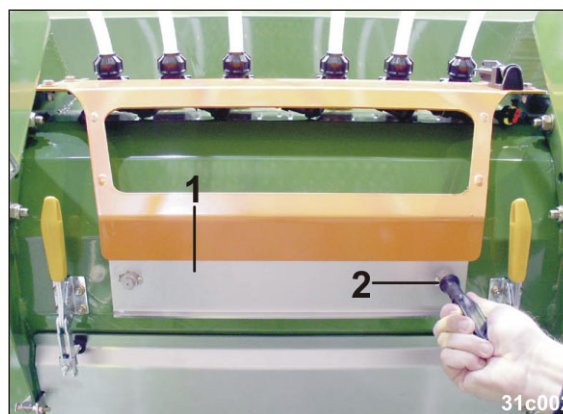

Fig. 245
- 7.2 Open the lock (Fig. 245/1) with the hexagon wrench provided (Fig. 245/2).